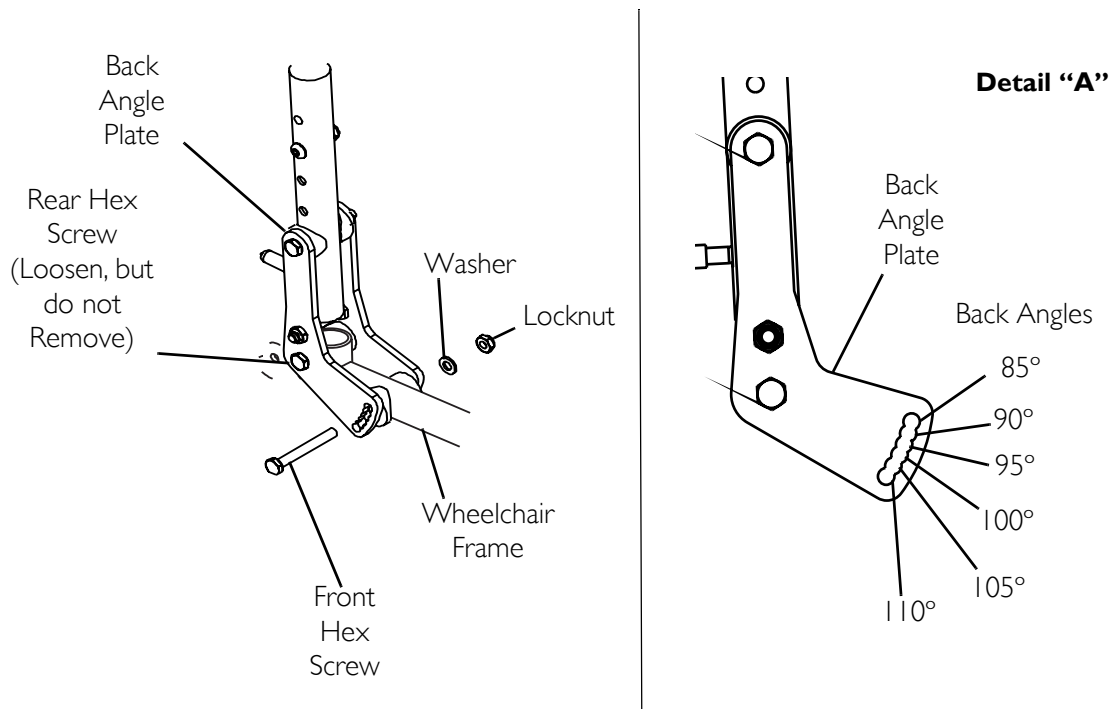

FIGURE 8.3 Changing the Back Angle
NOTE: For this procedure, refer to FIGURE 8.3.
3. Position the back angle plate to one (1) of six (6) back angles. Refer to Detail "A" of FIGURE 8.3.
4. Reinstall the front hex screw and washer, securely tighten with locknut. Refer to FIGURE 8.3 for correct hardware orientation.